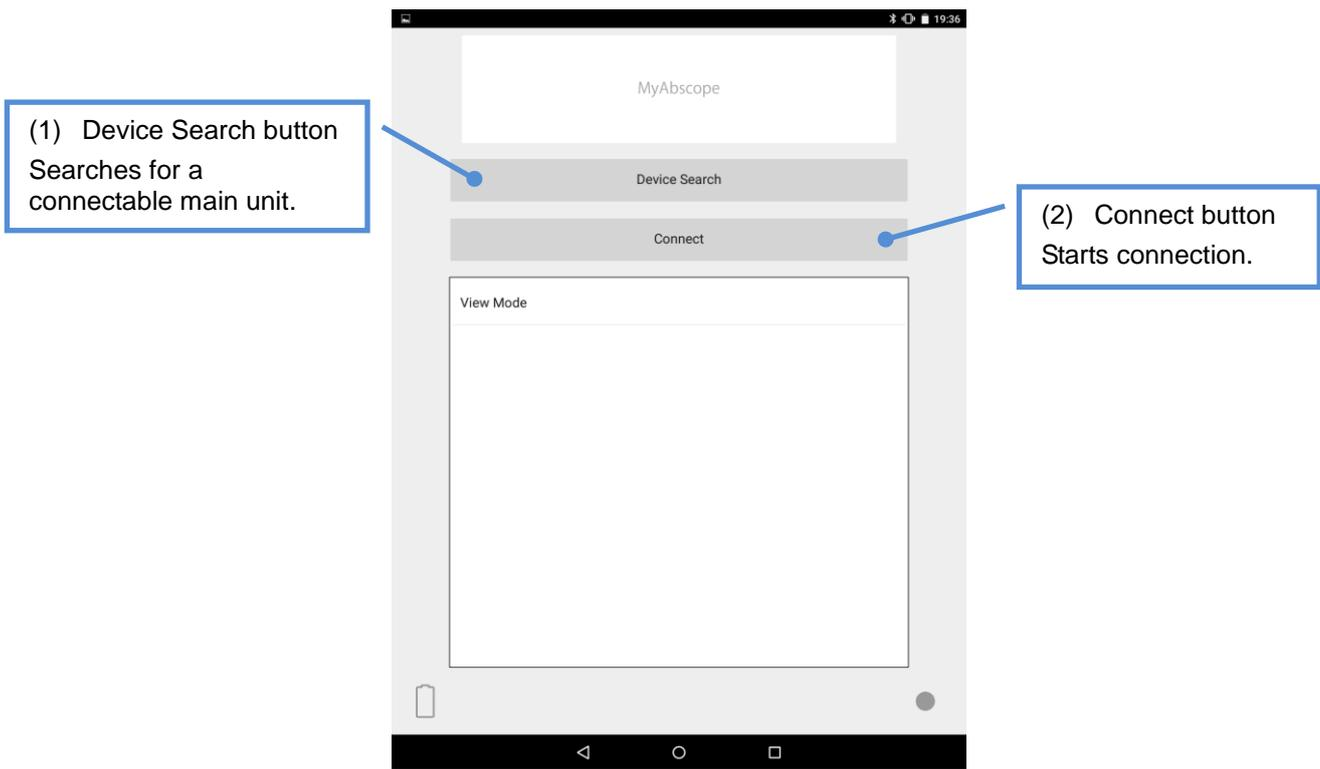

Figure 2-2: Connection setting screen
When the MyAbscope application is activated, the connection setting screen (Figure 2-2) is displayed.
Tap the “Connect” button (2) on the connection setting screen (Figure 2-2) to establish the connection. Then the top screen (Figure 2-8) is displayed.